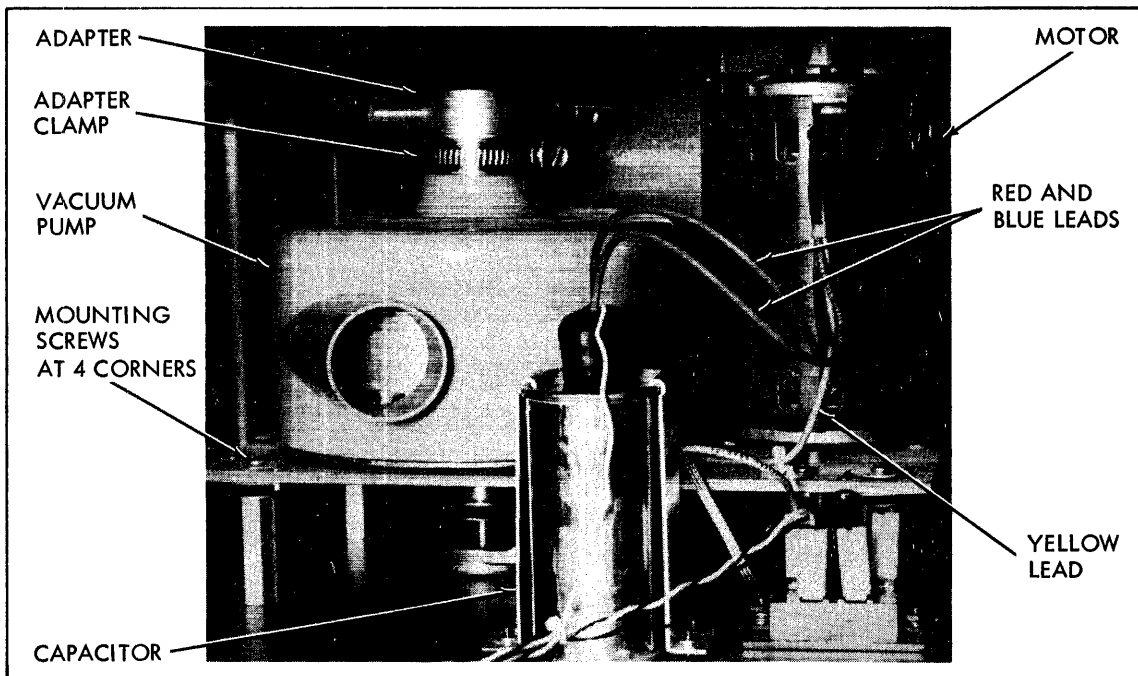

Figure 9-9. Bottom Vacuum Pump Assembly Removal
- a. Remove the rubber hood from the motor run capacitor and disconnect the red and blue clip leads, figure 9.9.